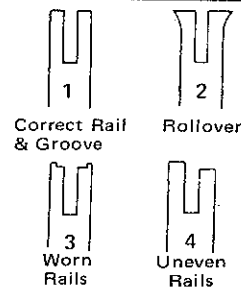

Figure 24
1. Figure 24 shows a cross-section of the guide bar. Keep the edges square as in (1) with a flat file.
2. Rollover is shown in (2). This will cause you to press extra hard when cutting.
3. Worn rails are shown in (3). This occurs most often at the guide bar nose.
4. Uneven rails are shown in (4). This will cause the saw to cut on an angle.
5. Keep the rails flat and square as shown in (1).